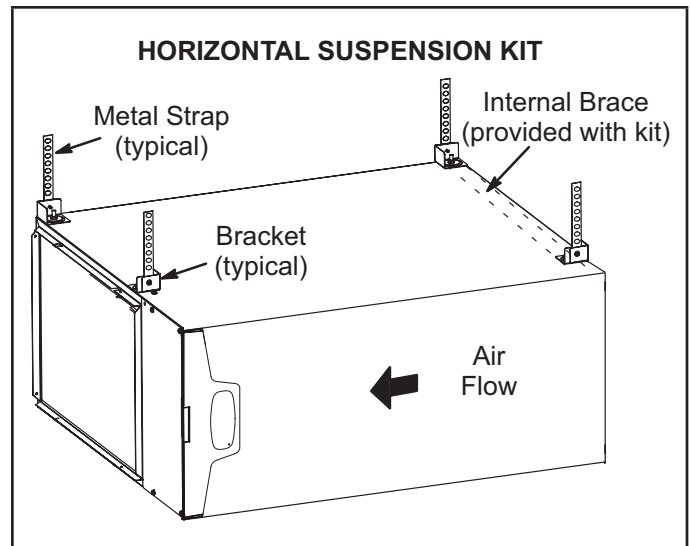

**FIGURE 17**
The EL195UHNE furnace can be installed in horizontal applications with either right- or left-hand air discharge. Refer to “FIGURE 17” for clearances in horizontal applications
- 1 - Select location for unit keeping in mind service and other necessary clearances. See “FIGURE 17”.